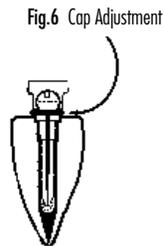

Fig.6 Cap Adjustment
The attachment cap should always have a little clearance from the root when seated onto the ball of the post. If not, the attachment cap will not be able to rotate on the ball. If necessary, remove a small amount of nylon on the lip of the cap to create this space (Fig. 6).
6. The laboratory then waxes up and casts the coping. (Fig. 6)